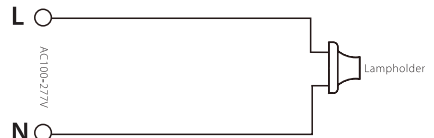

Fig.2
2. Make sure the Alternating Current Wires connect to the socket directly. (Fig.2) Reattach or replace ground lead if one is needed.